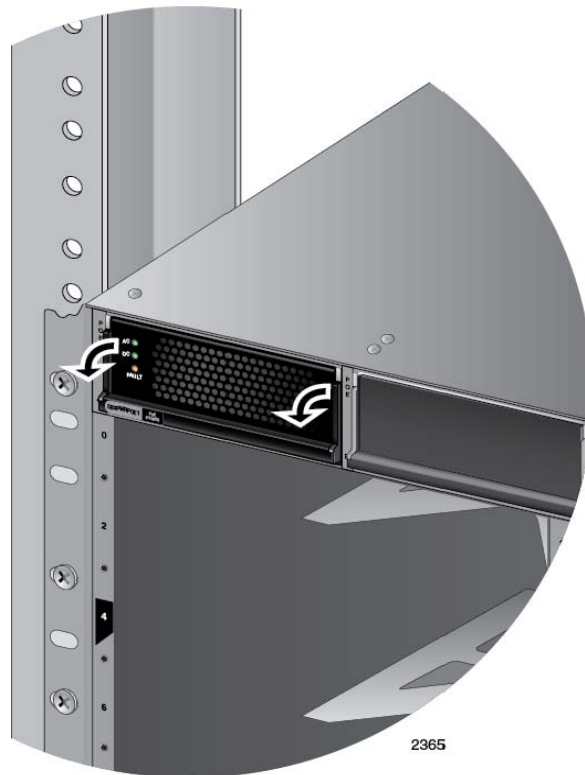

Figure 62. Locking the Handle on the AT-SBxPWRPOE1 Power Supply
6. Lower the locking handle of the power supply to secure the module in the slot, as shown in Figure 62.